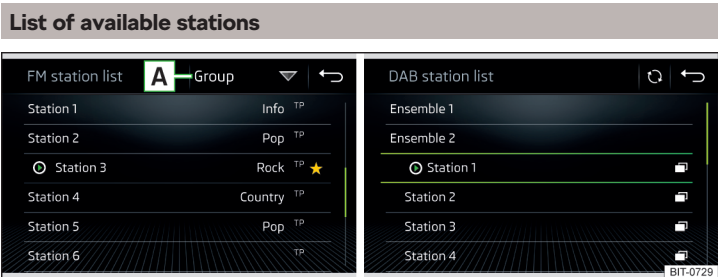

Fig. 164 Example, the list of available FM/DAB stations
- To **Sort** (FM) the stations in alphabetical order, by group or genre, tap on the function surface » Fig. 164 »
» Fig. 164 - .
- To **manually** update, tap on the function surface ◻ » Fig. 164 .